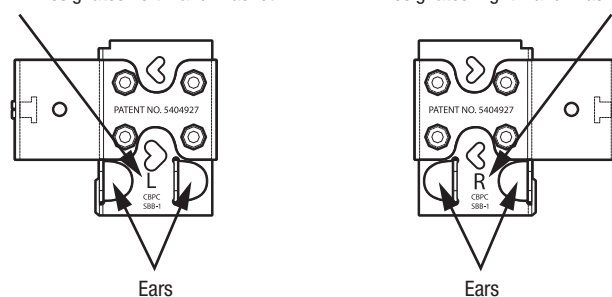

Fig. 5
- Fasten the safety bottom bracket to the door using (2) #14 × 5/8" sheet metal screws provided in the standard door hardware (Fig. 5).